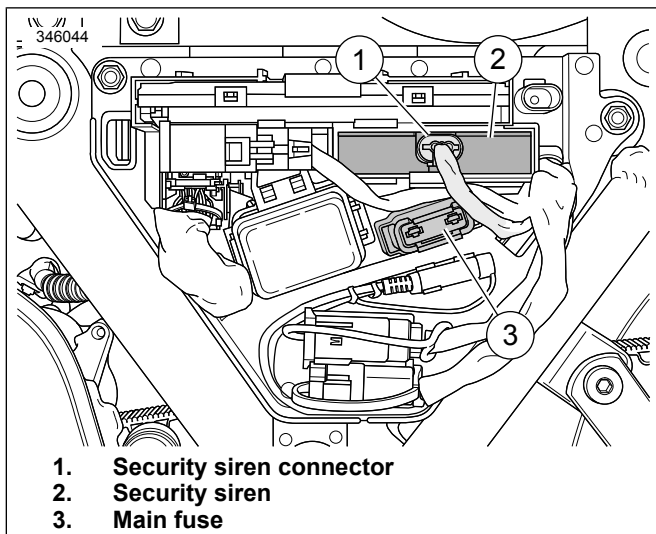

Figure 19. 2014 and Later Touring and Trike
4. See Figure 19. Remove main fuse (3).
5. Install security siren (2).
6. Connect security siren connector (1).
7. Install main fuse (3).